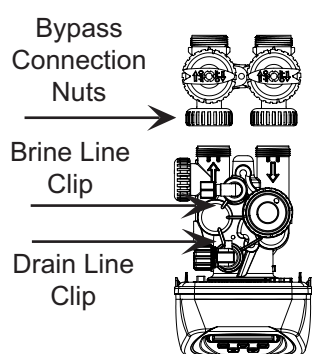

figure 1
4. Once the pressure is relieved, remove the Drain line from the control by pulling the lock clip. see figure 1
5. Next, remove the brine line that is connected to the salt tank by pulling the lock clip. see figure 1
6. Loosen the connection nuts between the valve and the bypass. see figure 1
7. Insert Brine Line into it's position and install the lock clip. (*see page 16 figure 1*)
8. Insert the Drain line into it's position and install the lock clip. (*see page 16 figure 1*)